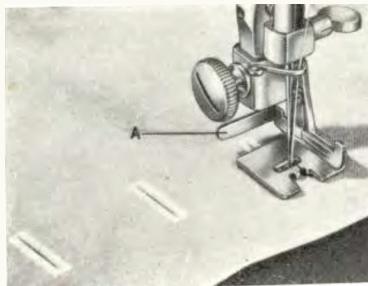

Fig. 26.
5. Adjust the gauge on the buttonhole-foot (A, Fig. 26) to the length required for the buttonhole. The size of the buttonhole will correspond to the distance from the needle to the gauge. (Make buttonhole about 3/16 to 1/4 in. longer than size of button.)
2. Place one end of the buttonhole marking under the needle, with the rest facing towards you. Lower the presser foot and start sewing. Stop when the first stitch reaches the gauge (A, Fig. 26).
7. While the needle is still raised, press in the stop (Fig. 26 a) and turn the control to the right. The stitch width will then be automatically stopped at 3/32" (2 mm). Then sew the second line of stitches, stopping the machine when the needle is in its lefthand position. The buttonhole, almost finished, now looks like (d).